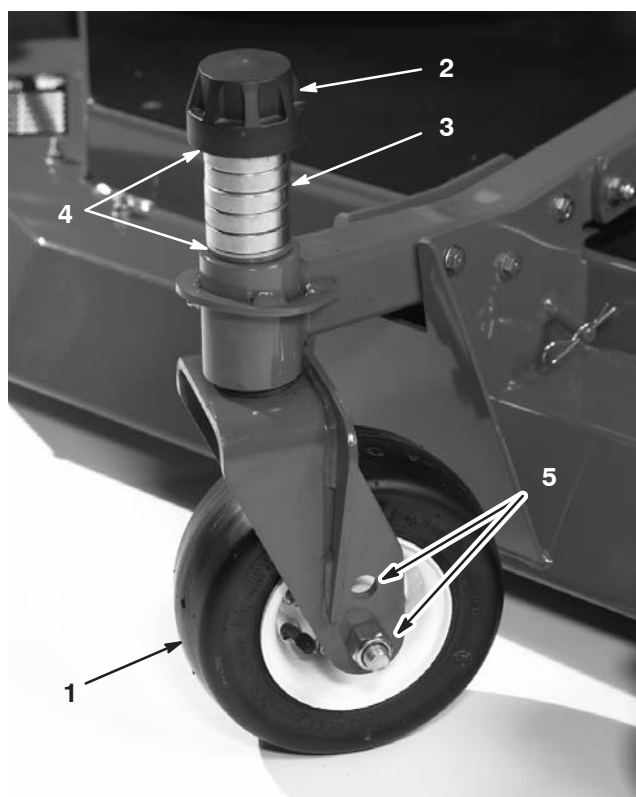

Figure 10
3. Remove the tensioning cap from the spindle shaft (Fig. 10) and slide the spindle out of the castor arm. Put the shims (1/8 inch) onto the spindle shaft as they were originally installed. These shims are required to achieve a level across the entire width of the cutting unit. Slide the appropriate number of 1/2 inch spacers (refer to the following chart) onto the spindle shaft to get the desired height-of-cut; then slide the washer onto the shaft.